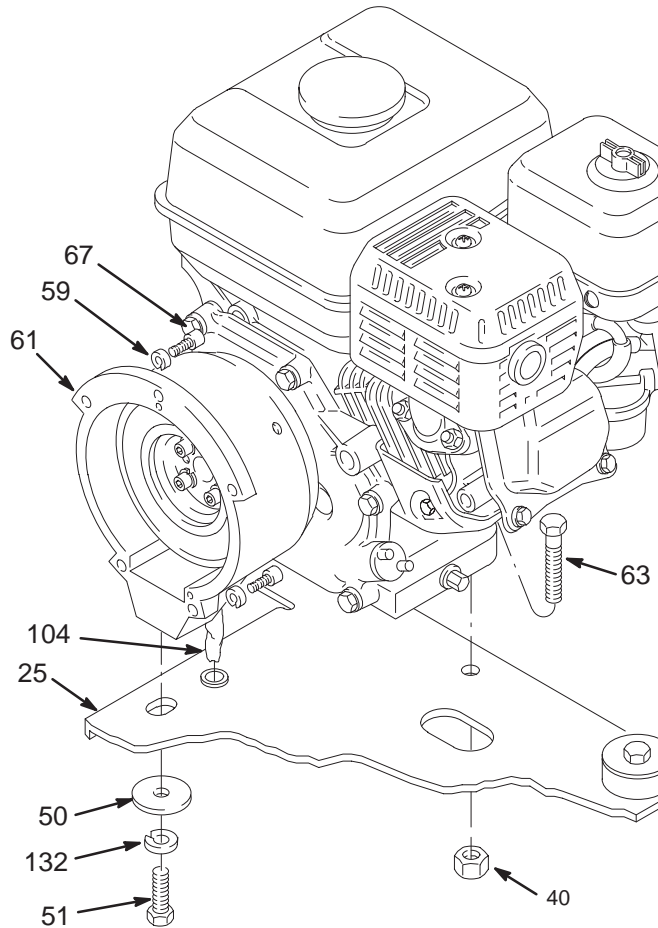

Fig. 34
1. Working under the mounting plate (25) of the cart, remove the screw (51), lockwasher (132) and washer (50) which hold the clutch housing (61) to the cart. See Fig. 34.
2. Still working under the mounting plate, remove the two locknuts (40), and then pull the screws (63) out of the base of the engine. Disconnect the red wire from the engine lead. Disconnect the black and white wires (58) from the field. Pull the wires carefully through the grommets before removing the engine. See Fig. 34 and 35.